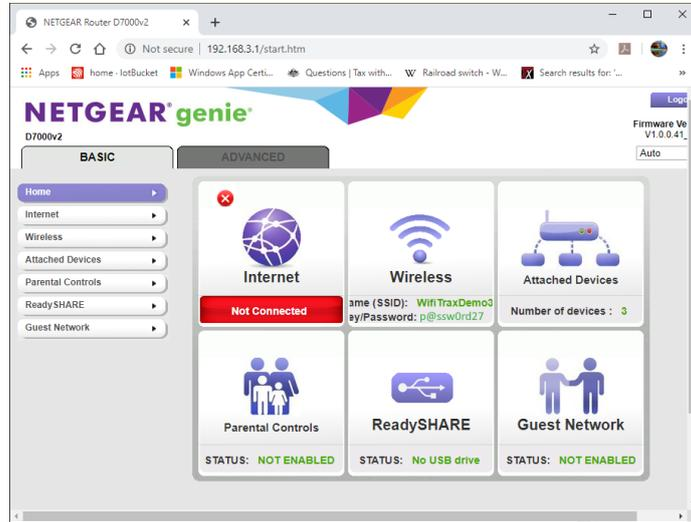

Figure 90 A typical router admin page
- d. Once you have given the credentials, you will see the Admin page. A typical one is shown in Figure 90. Find the “Attached Devices” option and click on it.